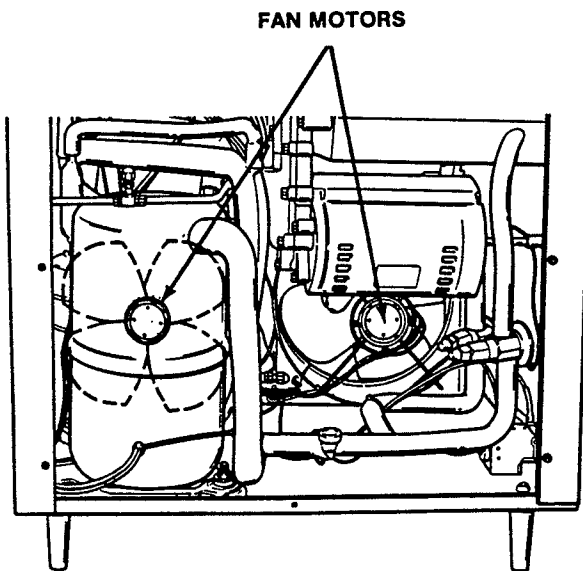

Figure 70. Fan Motor Installation
1. Install the fan motor through the side of the freezer (Fig. 70) and position inside the wire frame with the fan blade in place.